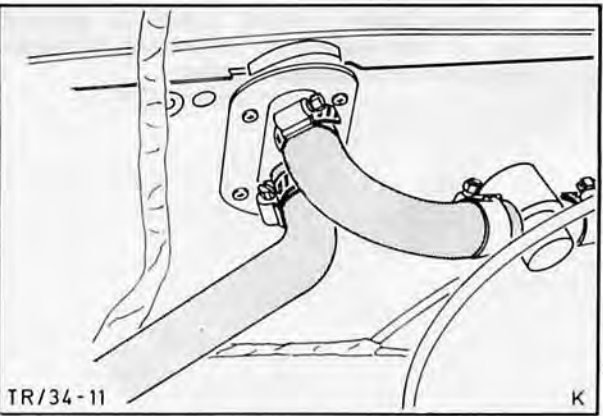

Fig. 12. Disconnect hoses from heater radiator
- First pull off lower hose and drain coolant into a suitable container then pull off upper hose, Fig. 12. Secure both hoses in the engine compartment with open ends facing upwards.